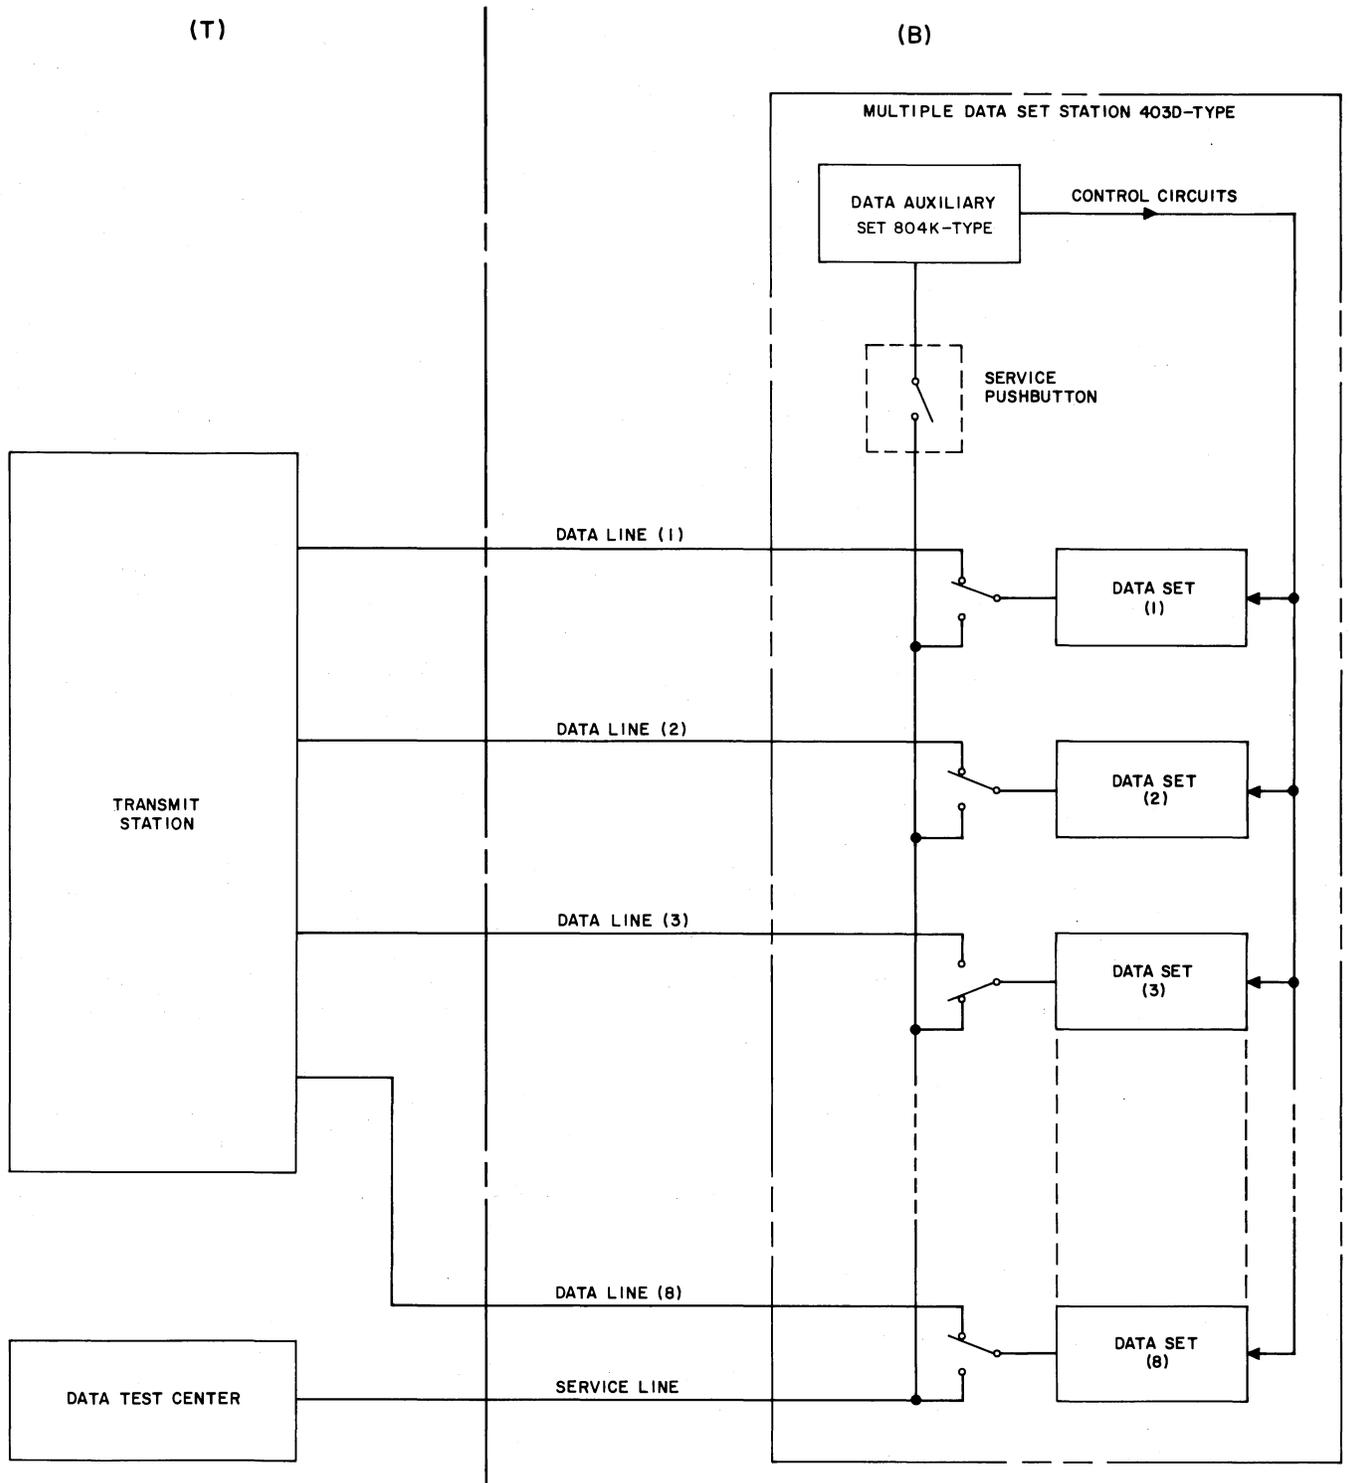

Fig. 2—Remote Test of Multiple Data Set Station With Data Set 3 Being Tested
3.01 A remote test of a multiple data set station using data auxiliary set 804K-type as the line control unit is given in Fig. 2 and Table A.
1	Data test center receives trouble report and calls attendant (T to B, Fig. 2).